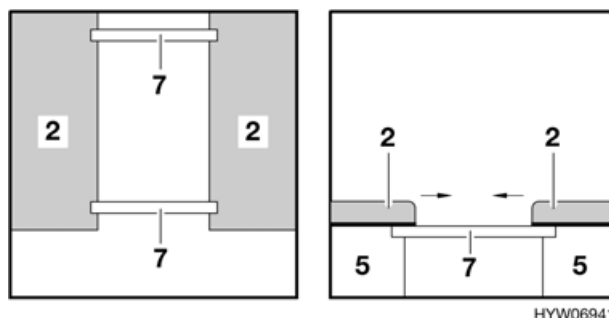

Fig. 47 During conversion
- Remove the bed rods (Fig. 47,7) from the bedding box (Fig. 47,5).
- Lift up both seat cushions (Fig. 47,2) and place the two bed rods (Fig. 47,7) in a transverse position in the pertinent grooves between both bedding boxes.